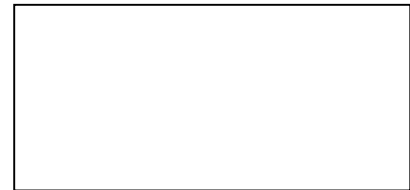

Figure 25 BGM Adjustment
- (a) Locate R2 variable resistor on the pre-amplifier board 002 – 064. (See Figure 25)